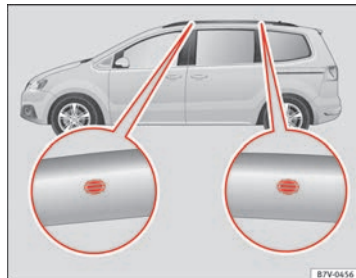

Fig. 101 Attachment points for the basic support and the roof carrier system
The position holes are located on the inner side of the rail ⇒ Fig. 101.
- The base support should only be fitted to the points indicated in the diagram ⇒ Fig. 101.